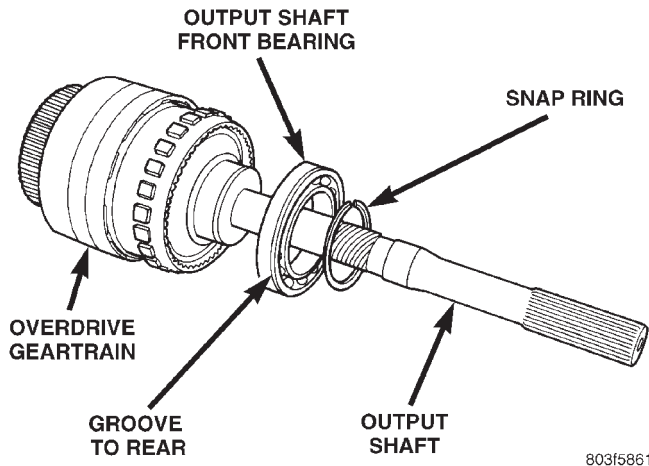

Fig. 314 Removing Snap Ring And Front Bearing
- (1) Remove output shaft front bearing snap ring (Fig. 314).
- (2) Remove front bearing from output shaft (Fig. 314).